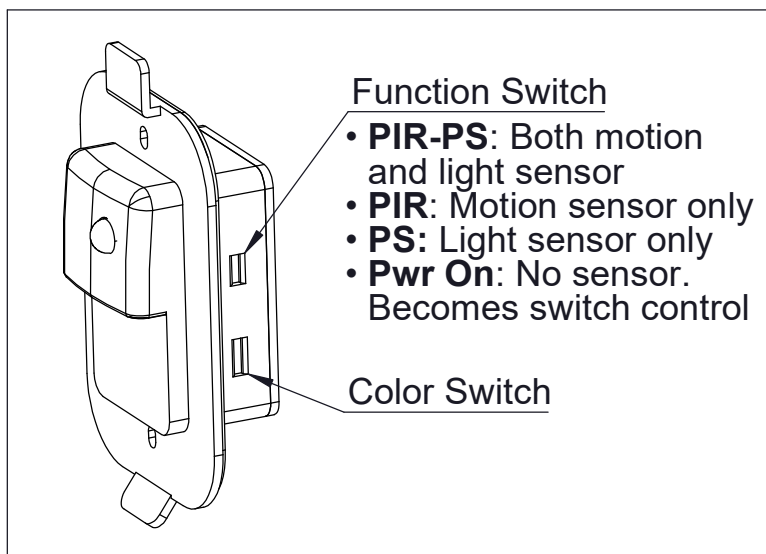

Figure 1
1. On Driver Unit, slide switches to desired color temperature and to desired function (Fig. 1)